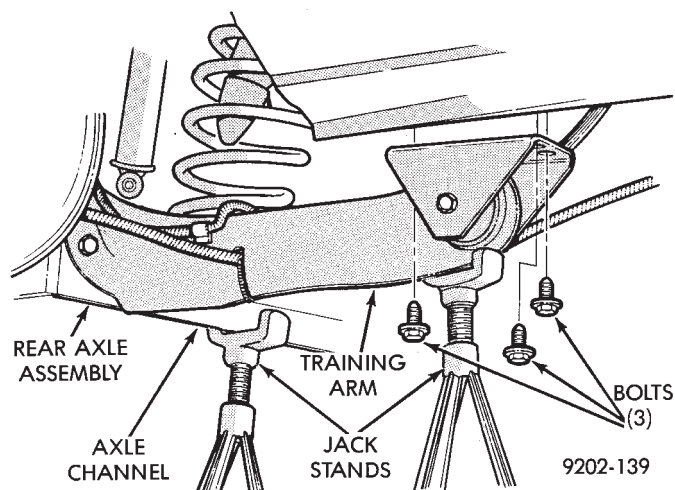

Fig. 6 Remove Pivot Bushing Hanger Bracket Bolts
(3) Support the rear axle assembly at both the axle channel and the trailing arm (Fig. 6). Then remove lower shock absorber to rear axle mounting bolt (Fig. 6).